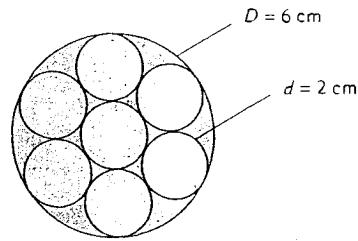

Fig. P6.94
**6.94** As shown in Fig. P6.94, a multiduct cross section consists of seven 2-cm-diameter smooth thin tubes packed tightly in a hexagonal "bundle" within a single 6-cm-diameter tube. Air, at about  $20^\circ\text{C}$  and 1 atm, flows through this system at  $150 \text{ m}^3/\text{h}$ . Estimate the pressure drop per meter.